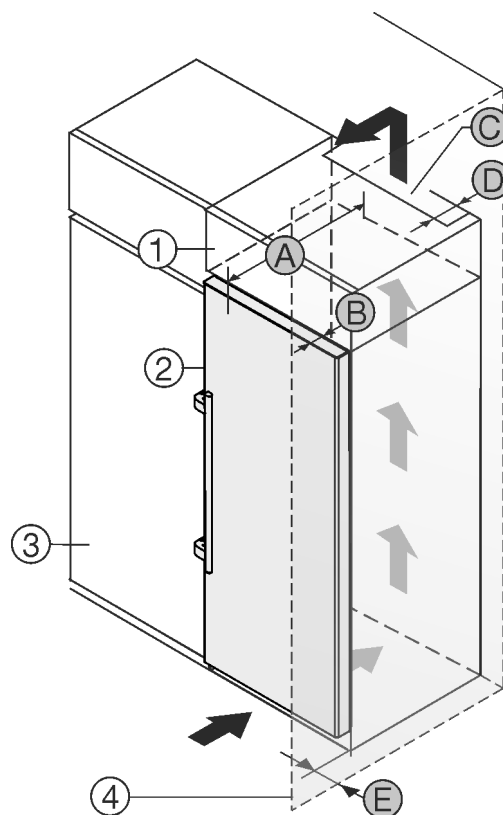

Fig. 24
The appliance can be built into kitchen units. A top cupboard *Fig. 24 (2)* can be added above the appliance in order to bring the appliance *Fig. 24 (1)* up to the height of the fitted kitchen units.
If the appliance is positioned directly next to a kitchen cabinet *Fig. 24 (3)*, a distance of at least 5 cm from the appliance is necessary. The appliance must protrude by the depth *Fig. 24 (B)* from the front of the cabinet so that the doors can be opened fully. The appliance may protrude further depending on the depth of the kitchen cabinets and whether wall spacers are used.
- At the back of the top cabinet, there must be an air outlet shaft with depth *Fig. 24 (D)*, spanning the entire width.
- The ventilation shaft *Fig. 24 (C)* must be observed under the ceiling.
If the appliance is installed with the hinges next to a wall *Fig. 24 (4)*, the distance *Fig. 24 (E)* between the appliance and the wall must be observed. This is how far the handle protrudes when the door is open.